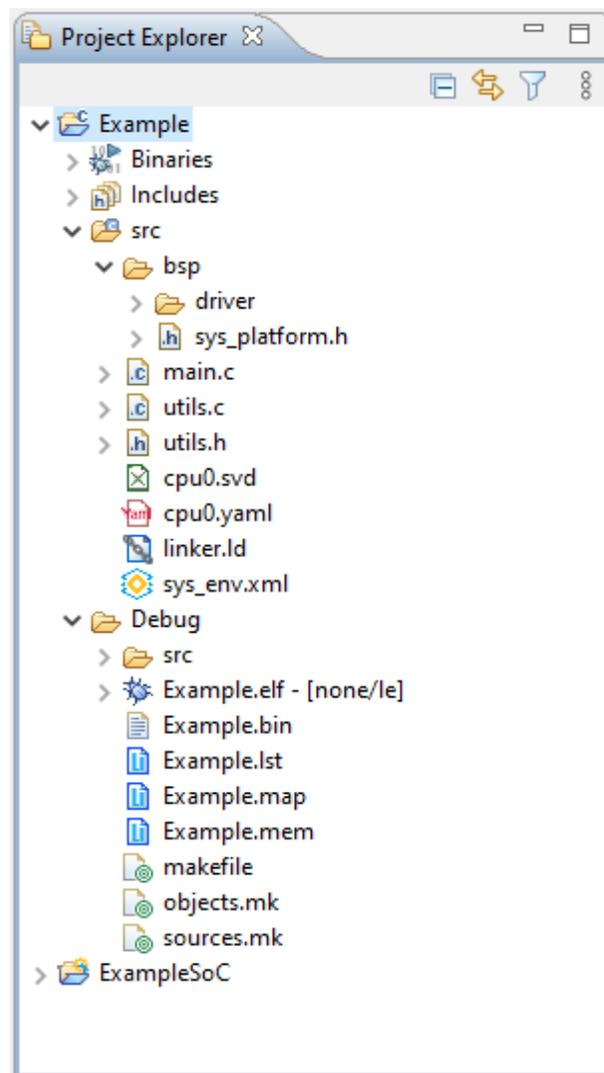

Figure 3.23. Contents of C/C++ Project
After building the project, the build output can be found in each build configuration folder, the **Debug** folder or the **Release** folder (Figure 3.23). The Debug or Release folder contains:
**Note:** Some of the files listed in Figure 3.23 are intermediate files that you do not need to take care of.